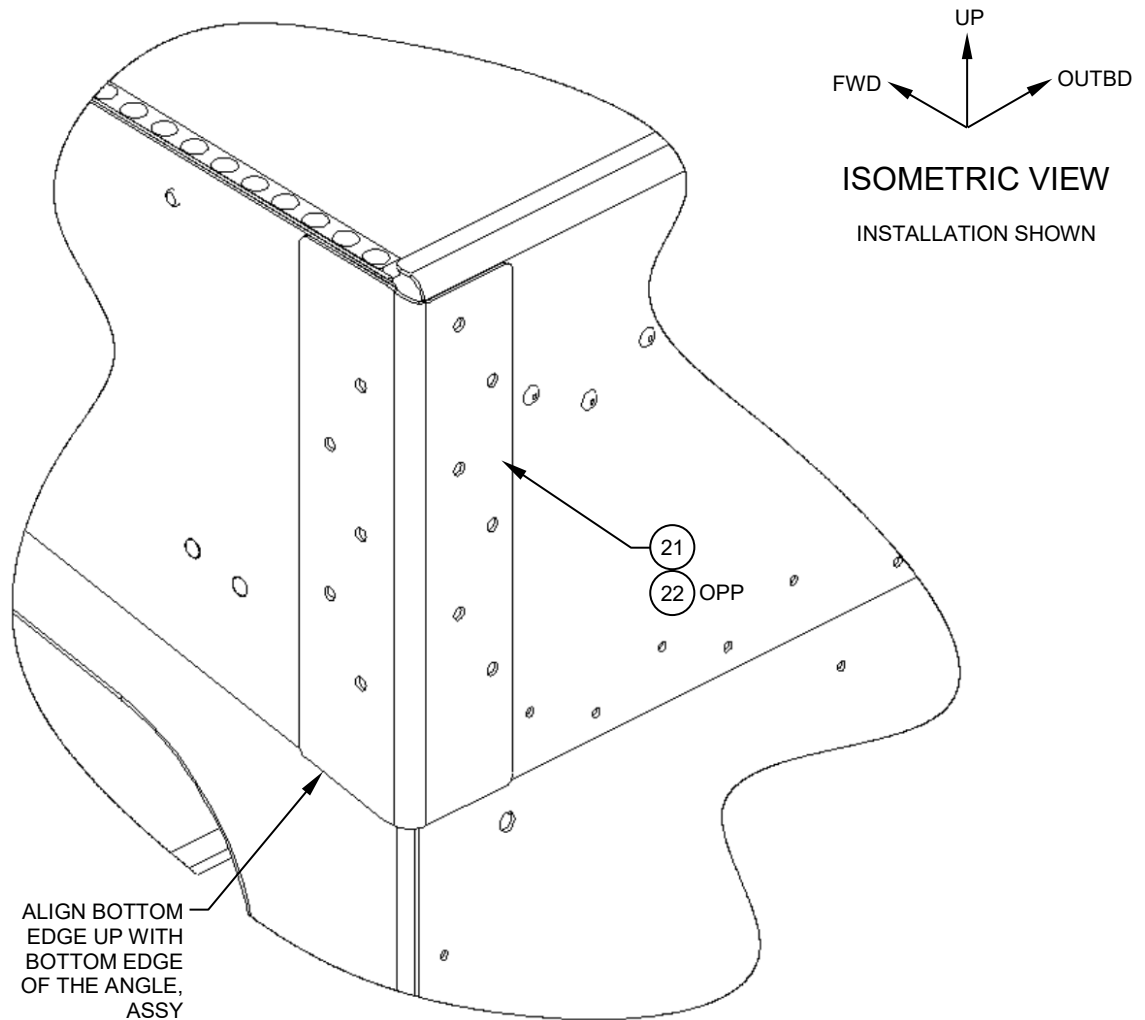

Figure 13
2.13. Fit the LHS/RHS AFT Angle, Details, (Items 21 & 22), so that the outboard lower edges match up with the lower edges of the LHS/RHS Angle, Assy's, (Items 1 & 6). See figure 13.